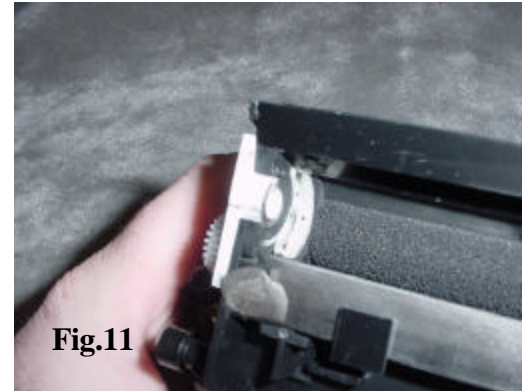

Fig.11
11. In the development area, there are two black Mylar strips behind and below the developer roller. Inspect these strips carefully. If damaged, peel them off the cartridge and remove all residual toner. When replacing affix the inner Mylar first then the outer. Also in the development area there are two white rubber saddles that the developer roller rotates on, one on each end of the hopper opening. If these channels are damaged or worn, toner leakage from the end of the developer roller may occur (Fig.11).